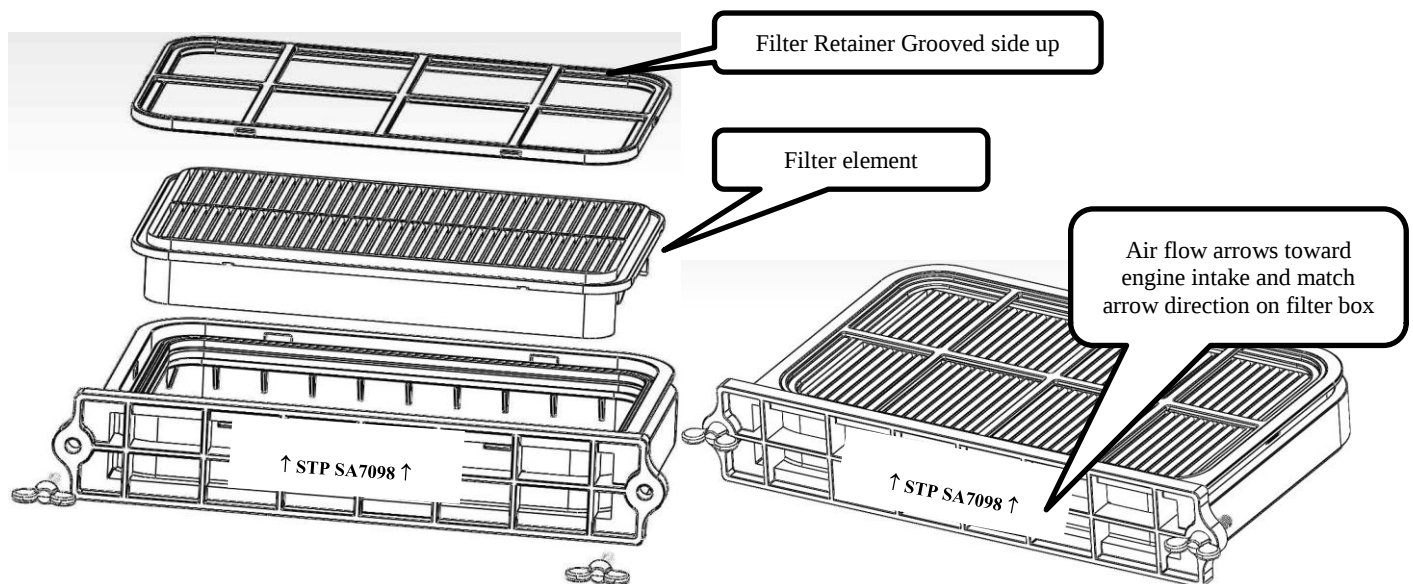

Figure 1. FILTER CARTRIDGE ASSEMBLY
7. Insert new filter element (Fram CA7098, STP SA7098, K&N 33-2113, Purolator A14649, Auto Extra 619-46107, Wix 46107 or equivalent) oriented as shown in Figure 1.
8. Snap in filter retainer oriented as shown in Figure 1.